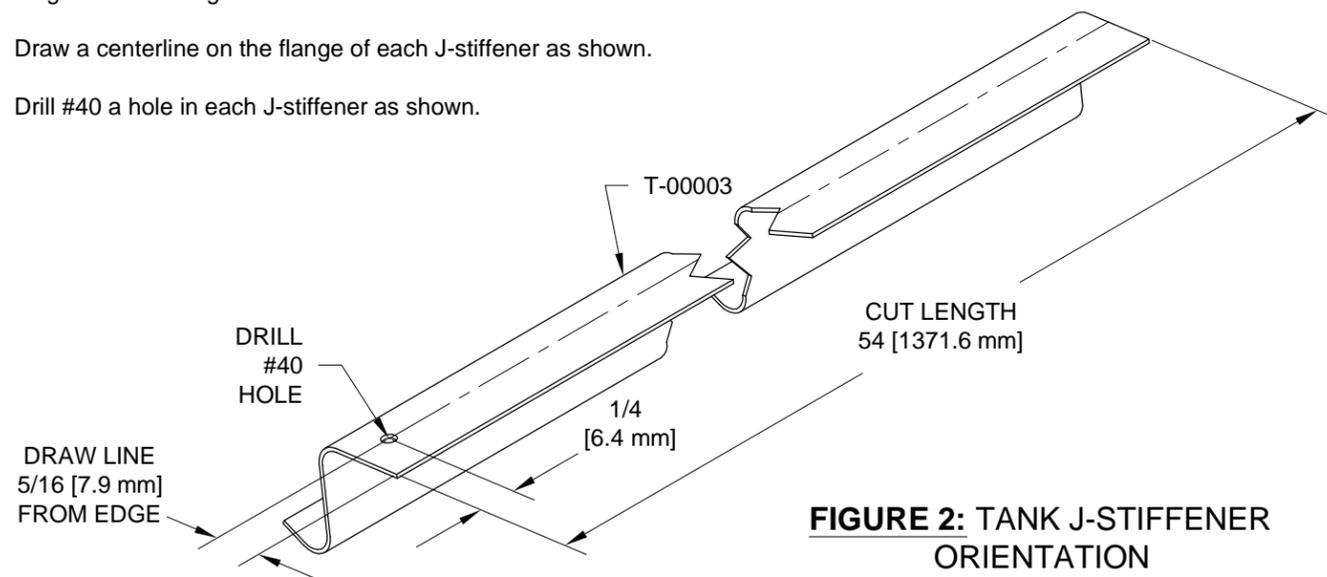

FIGURE 2: TANK J-STIFFENER ORIENTATION
Step 2: Fabricate the T-00003 Tank J-Stiffener for both left and right tank assemblies by cutting two pieces of J-channel to the length shown in Figure 2.